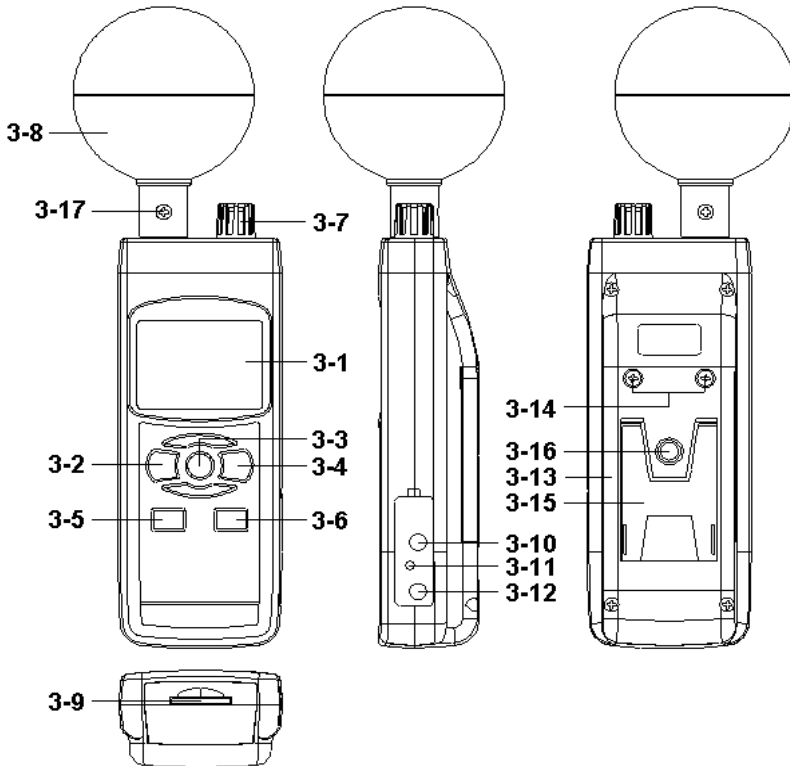

Fig. 1
( 3-2, Fig. 1 ) momentarily.
*\* Pressing the " Power Button " ( 3-2, Fig. 1 )
Pressing the " Function Button " ( 3-3, Fig. 1 )
just release the " Function Button " ( 3-3, Fig. 1 ), the
- 1) Power on the meter by pressing the " Power Button " ( 3-2, Fig. 1 ).
- \* *After power on, then press the " Power Button " ( 3-2, Fig. 1 ) > 2 seconds will power off.*
- \* During make the WBGT measurement, if pressing the " in/Outdoor Button " ( 3-4, Fig. 1 ) continuously will select the " indoor WBGT " or " outdoor WBGT " function.
( 3-2, Fig. 1 ).
3-7, Fig. 1.
Black ball, 3-8, Fig. 1.
During the measurement, press the " Hold Button " ( 3-3, Fig. 1 ) once will hold the measured value & the LCD will display a " HOLD " symbol.
- 1) The data record function records the maximum and minimum readings. Press the " REC Button " ( 3-4, Fig. 1 ) once to start the Data Record function and there will be a " REC " symbol on the display.
- a) Press the " REC Button " ( 3-4, Fig. 1 ) once, the " REC MAX " symbol along with the maximum value will appear on the display.
If intend to delete the maximum value, just press the " Hold Button " ( 3-3, Fig. 1 ) once, then the display will show the " REC " symbol only & execute the memory function continuously.
- b) Press the " REC Button " ( 3-4, Fig. 1 ) again, the " REC MIN " symbol along with the minimum value will appear on the display.
If intend to delete the minimum value, just press the " Hold Button " ( 3-3, Fig. 1 ) once, then the display will show the " REC " symbol only and execute the memory function continuously.
After power ON, the " LCD Backlight " will light automatically. During the measurement, press the " Backlight Button " ( 3-2, Fig. 1 ) once will turn OFF the " LCD Backlight " .
Prepare a " SD memory card " ( 1 GB to 16 GB, optional ), insert the SD card into the " SD card socket " ( 3-9, Fig. 1). The front panel of the SD card should face against the the down case.